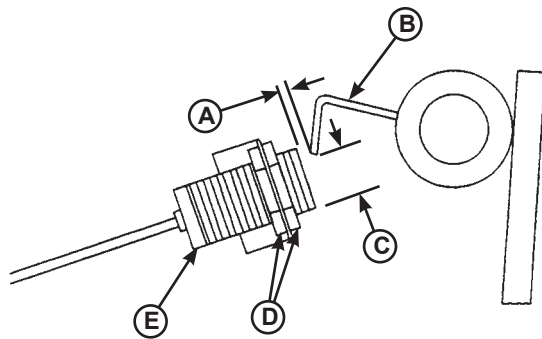

Figure 29
**Note:** Distances (A and C) in Figure 29 are typical factory settings. Use these dimensions only as a starting point when adjusting the proximity switch and target, especially if switch and/or target have been replaced.